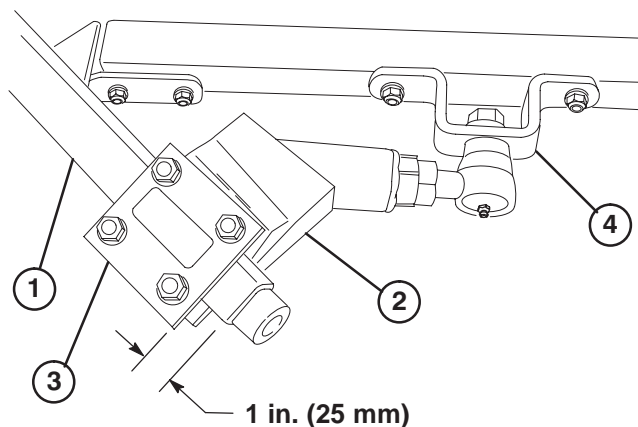

Figure 6
4. Install ball joint to right hand ball joint mount with a castle nut and cotter pin (Fig. 6).
5. Loosely mount push arm adapter to bottom of right push arm with a push arm bracket and (4) capscrews, flat washers, and flange head locknuts. Push arm adapter to be positioned approximately 1 in. (25 mm) from end of square tube on right push arm (Fig. 6).